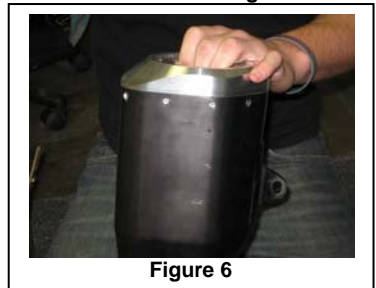

Figure 6
14. Install the new end cap receiver; make sure that the receiver is pushed up tight to the muffler as shown in **figure 6**